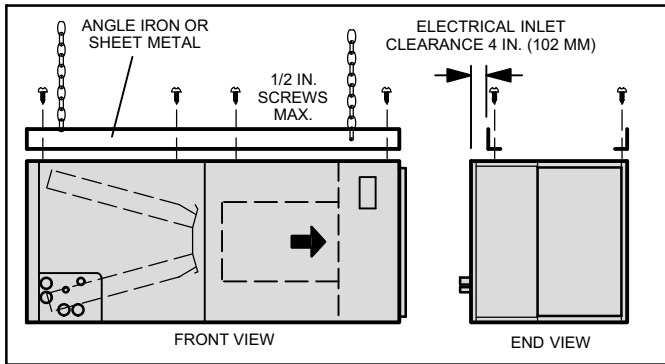

Figure 3. Suspending Horizontal Unit
3. If the unit is to be suspended, it must be supported along the entire length of the cabinet as illustrated in figure 3. If a strap is used, attach a piece of angle iron or sheet metal to the unit (either above or below) so that the full length of the cabinet is supported. Use securing screws which are no longer than 1/2 inch to avoid damaging the coil or filter. Connect the return and supply air plenums as required using sheet metal screws.
12. If the unit is to be suspended, it must be supported along the entire length of the cabinet as illustrated in figure 3 on page 5. If using a chain or strap, attach a piece of angle iron or sheet metal to the unit (either above or below the unit), so that the full length of the